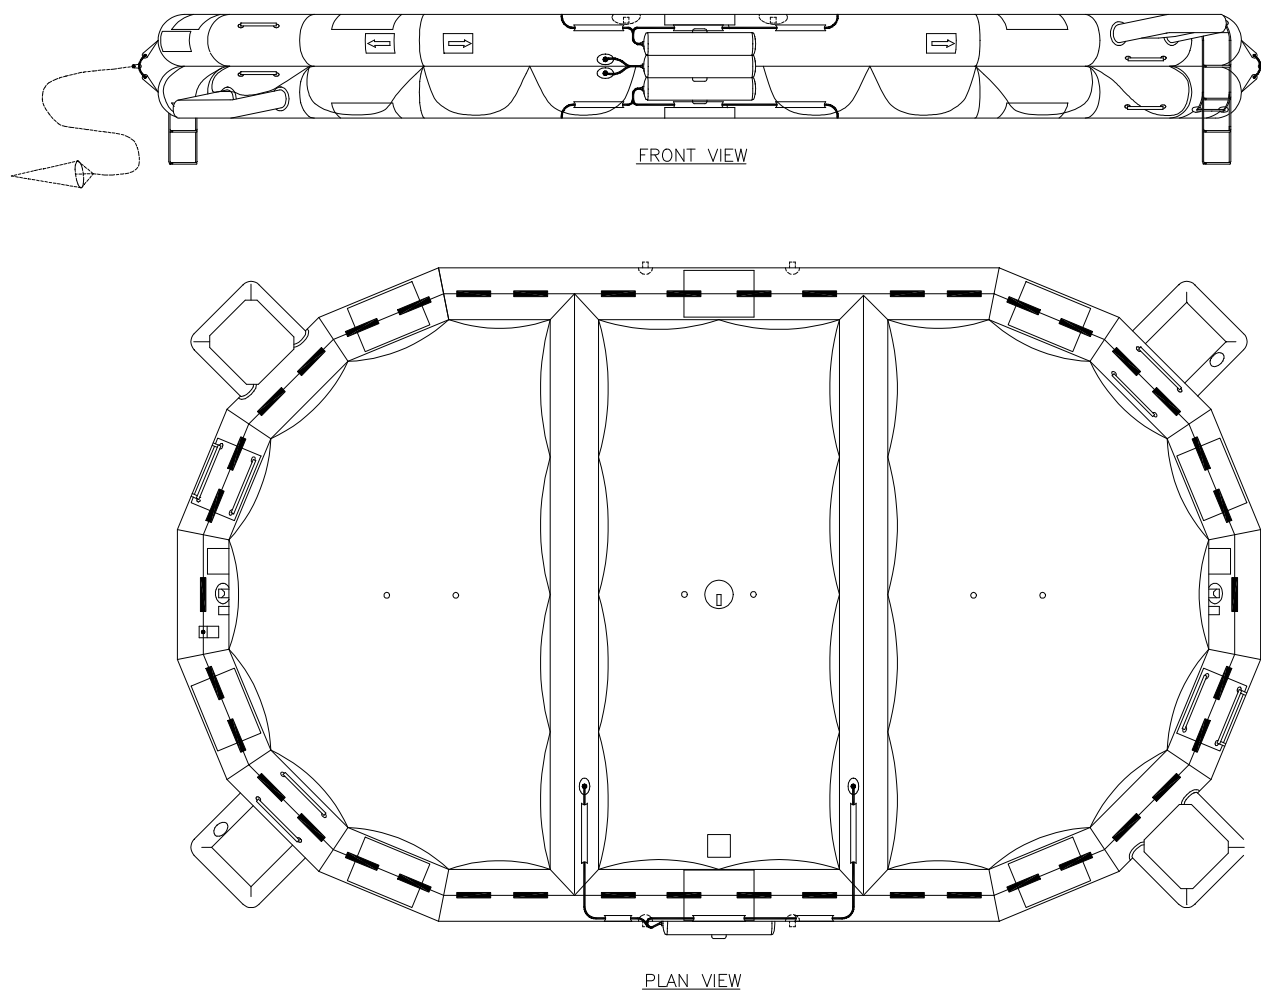
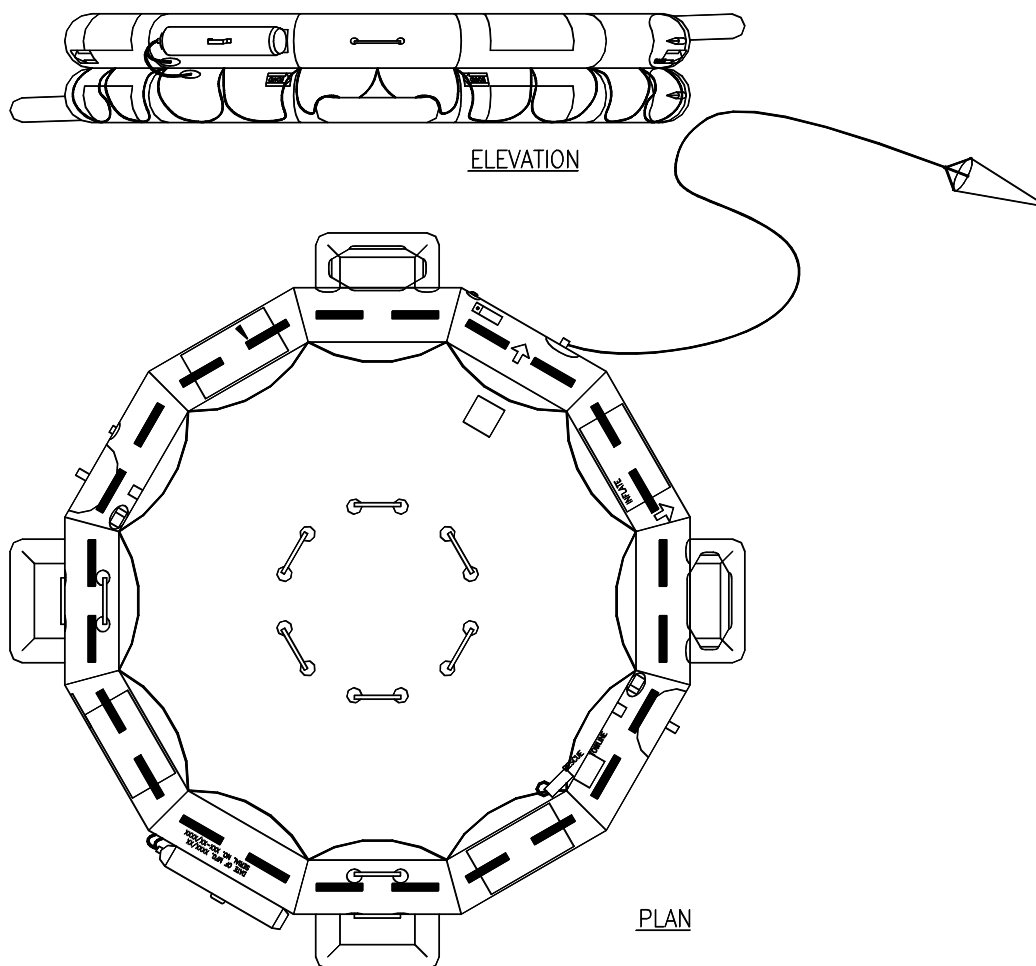

Figure 4.6 - 100/150 Person IBA
Figure 4.7 - 50/75 Person IBA
The 100/150 person IBA (shown in Figure 4.6) is constructed of butyl or polyurethane fabric and is CO₂ inflated. An emergency pack, containing paddles (4), foot pumps (2), bailers (2), repair kit (1), leak stoppers (4), knife (1), flashlight (1) c/w spare bulbs (2) and batteries (3), whistle (1), sponges (2) and sea anchor (1), all stowed in a paddle bag, is fastened to the IBA along with towing lines. The 50/75 person IBA has similar features to the 100/150 IBA and is shown in Figure 4.7.